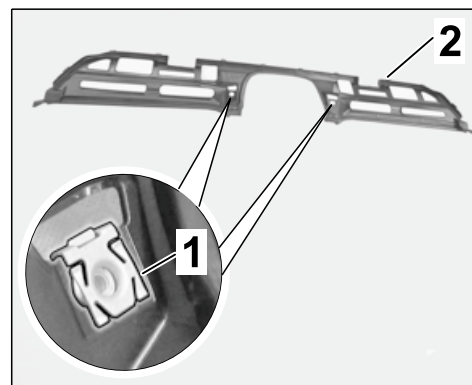

Figure 34
- 6.4 Fit new speed nuts (999.507.856.01) $\Rightarrow$ *Figure 34 -1-* on the rear holder $\Rightarrow$ *Figure 34 -2-*.